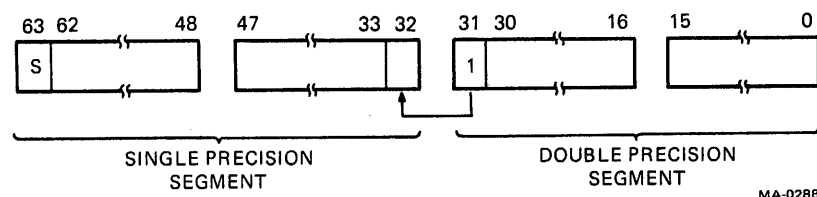

Figure 5-3 Double-to-Single Precision Rounding
The Load Convert Double-to-Floating (LDCDF) instruction causes the FP11-A to assume that the source specifies a double-precision floating-point number. The FP11-A then converts that number to single-precision, and places this result in the destination accumulator. If the floating-truncate (FT) status bit is set, the number is truncated. If the FT bit is not set, the number is rounded by adding a 1 to the single-precision segment if the MSB of the double-precision segment is a 1 depending on the prior conditions set up by the FD bit (Figure 5-3). If the MSB of the double-precision segment is 0, the single-precision word remains unchanged after rounding.
The Store Convert Double-to-Floating (STCDF) instruction causes the FP11-A to convert a double-precision number located in the source accumulator to a single-precision number. The FP11-A then transfers this result to the specified destination. If the floating-truncate (FT) bit is set, the floating-point number is truncated. If the FT bit is not set, the number is rounded. If the MSB (bit 31) of the double-precision segment of the word is a 1, 1 is added to the single-precision segment of the word, depending on the prior conditions set up by the FD bit (Figure 5-3); otherwise, the single-precision segment remains unchanged.